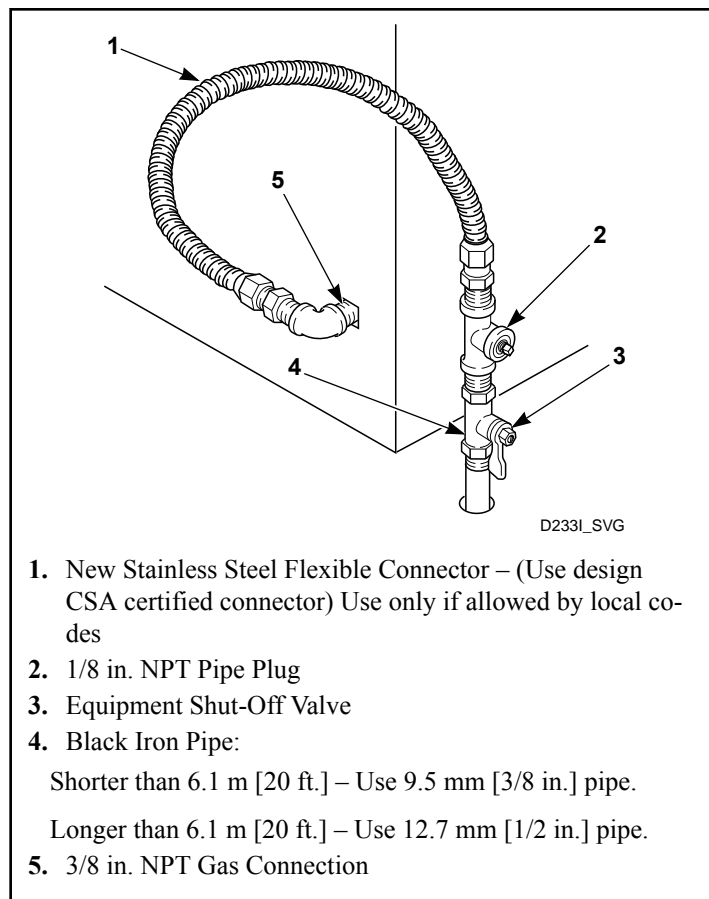

Figure 12
**NOTE: When connecting to a gas line, an equipment shut-off valve suitable for the appliance category in accordance with national installation regulations of the country of destination must be installed within 1.8 m [6 feet] of the dryer. A 1/8 in. NPT pipe plug must be installed as shown for checking inlet pressure. Refer to *Figure 12*.**